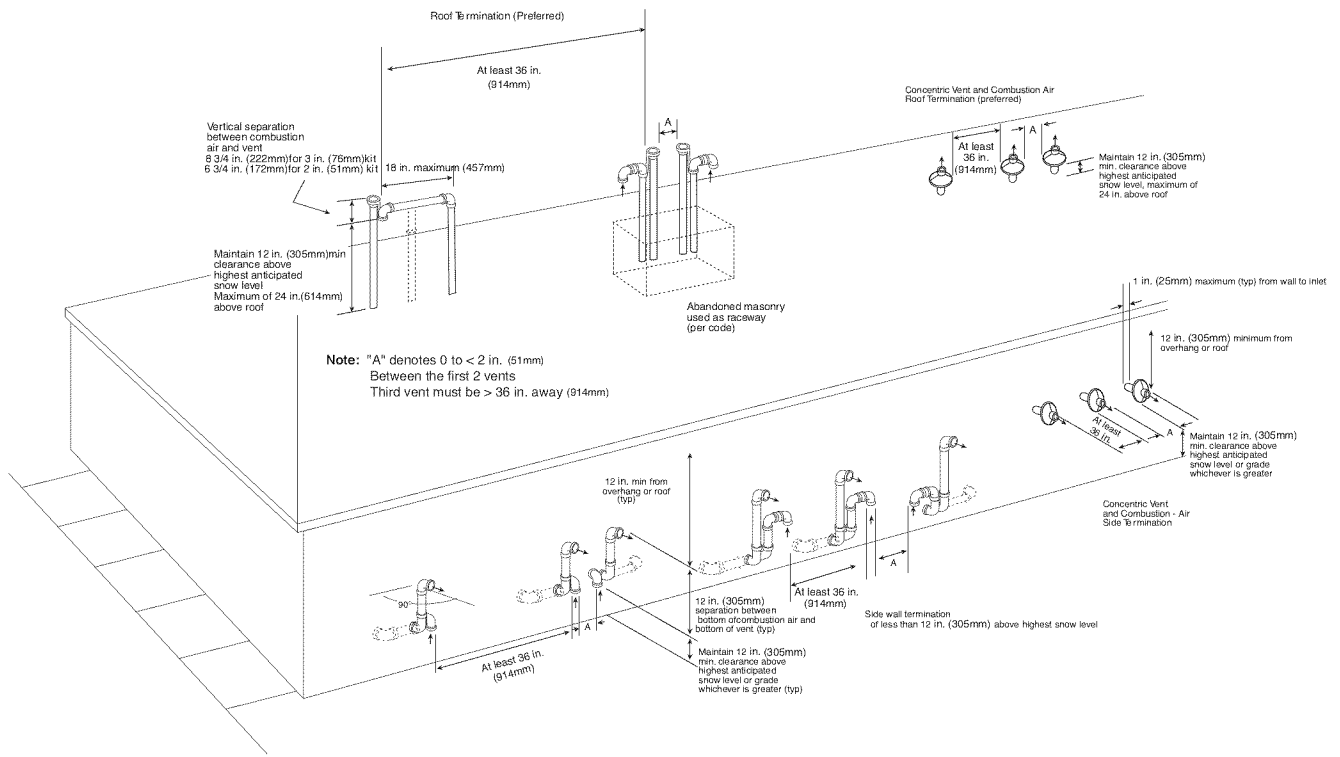
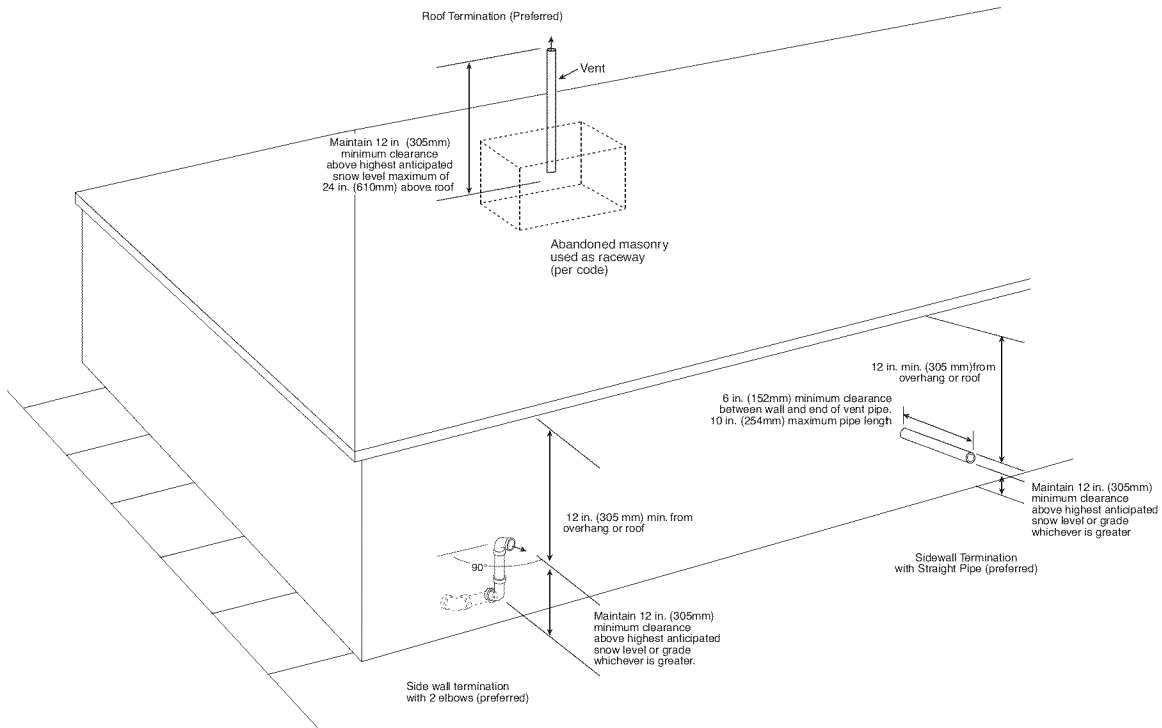

Fig. 44 - Combustion Air and Vent Pipe Termination for Direct Vent (2-pipe) System
Fig. 45 - Vent Pipe Termination for Non-Direct Vent (1-pipe) System
Combustion-air (direct vent/2-pipe system only) and vent pipe must terminate outside structure, either through sidewall or roof. For vent termination clearance, refer to Table 8 for Direct Vent/2-Pipe system and Table 9 for Non-direct Vent/1-Pipe system. For exterior piping arrangements, refer to Fig. 44 for Direct Vent/2-Pipe system and Fig. 45 for Non-Direct/1-Pipe system.
Sidewall combustion air pipe termination (direct vent/2-pipe system only) and vent pipe termination may be extended beyond area shown in Fig. 44 or in Fig. 45 per application in outside ambient by insulating pipe as indicated in Table 10.
Roof terminations — Locate assembly through roof to appropriate height as shown in Fig. 44.
Sidewall terminations — Locate assembly through sidewall with rain shield positioned no more than 1-in. (25 mm) from wall as shown in Fig. 44.
5. Check required dimensions as shown in Fig. 44.
Roof terminations —Loosely install pipe coupling on properly cut vent pipe. Coupling must be positioned so bracket will mount as shown in Fig. 44.
For applications using combustion-air pipe option, indicated by dashed lines in Fig. 44, install 90° street elbow into 90° elbow, making a U-fitting. A 180° U-fitting may be used.
Sidewall terminations —Install bracket as shown in Fig. 44.
For applications using vent pipe option indicated by dashed lines in Fig. 44, rotate vent elbow 90° from position shown in Fig. 44.
4. Check required dimensions as shown in Fig. 44.
(Direct Vent/2-Pipe System ONLY)-When 2 or more 58MCB furnaces are vented near each other, 2 vent terminations may be installed as shown in Fig. 44, but next vent termination must be at least 36 in. (914 mm) away from first 2 terminations. It is important that vent terminations be made as shown in Fig. 44 to avoid recirculation of flue gases.